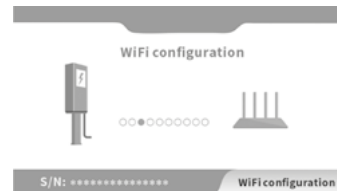

Fig.1 / WiFi configuration
5. Press and rotate to reset the emergency stop button three times in succession until the four indicator lights illuminate in a cycle corresponding to the running lamp mode. At the same time, the LCD screen changes to the WLAN configuration page. Click the „**CONFIRM**“ button of the APP on the smartphone (Fig.1).